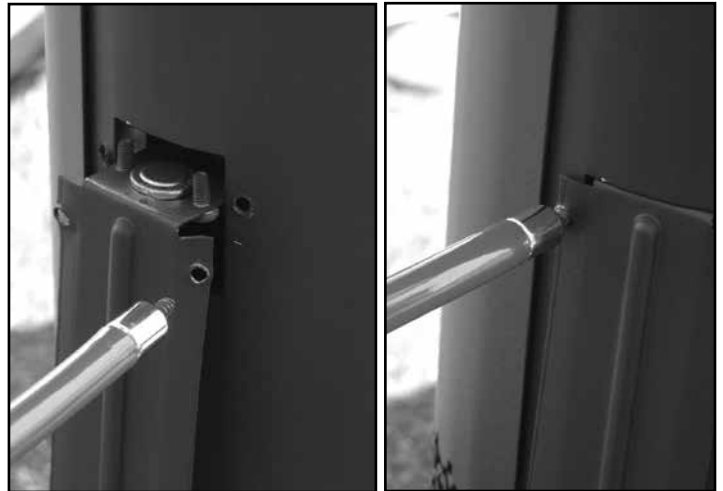

Figure 47: Spill switch installation.
3. Remove the four mounting screws holding the spill switch bracket and remove the bracket (see Figure 47).
Step 5: Remove the cast side (left or right) by loosening the two (2) top mount bolts (Figure 47) using a 3/8" wrench. Next, lift up to remove the cast side and lay it down on a soft surface.